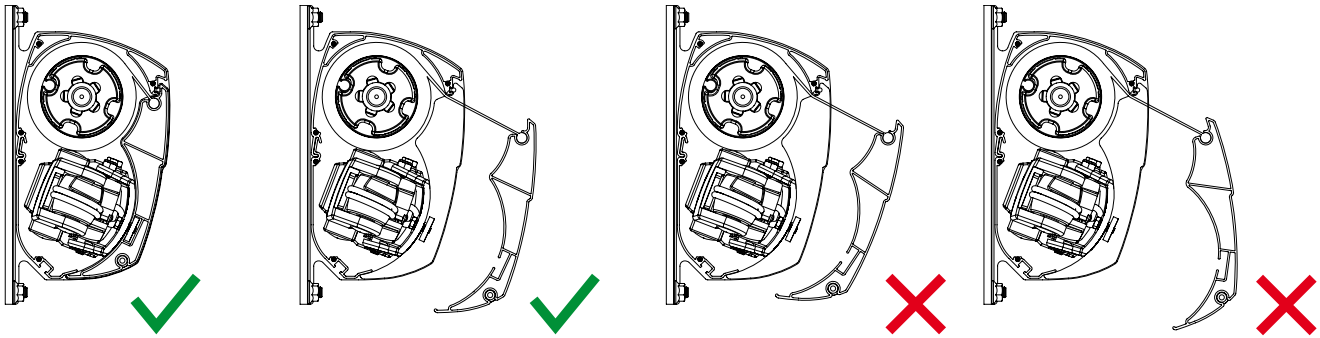

fig. 5.1 Position front bar
The right position can be achieved if the front bar connects perfectly to the top- and bottom cap if the awning is closed. See figure 5.1.
2. At the end of the folding arms (on the side of the front bar), arm connections are located. See figure 5.1.